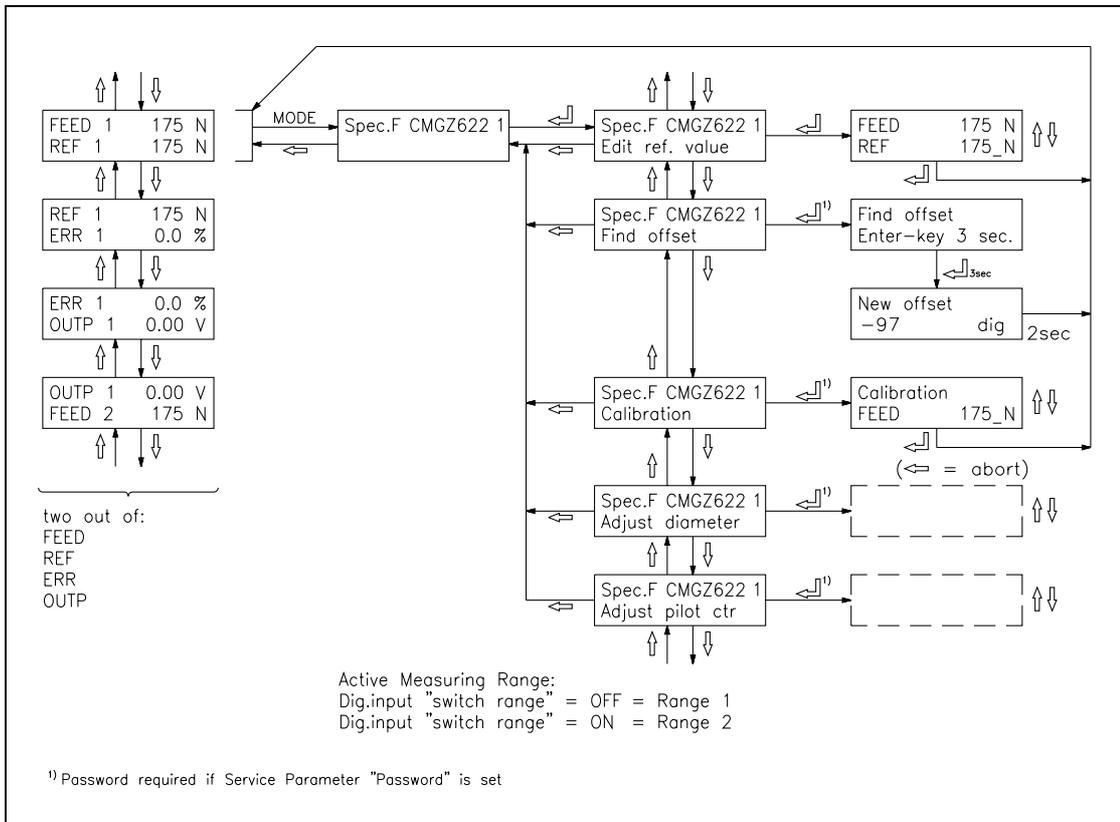

fig. 12: Main operating menu CMGZ622
The distance sensor operates with the 3-beam-correction principle. It is considerable insensible to secondary light and changes of the surface colour of the detected object. But while mounting it must be ensured that the sensor is mounted in „horizontal“ position (fig. 12). The output signal is proportional to the reel radius: Small radius = small signal; large radius = large signal.
- Press MODE key. Search and select the module *Spec.F CMGZ622 I* and the special function *Find offset* with the $\uparrow \downarrow \leftarrow$ keys (fig. 12).
- Find offset by pressing the \leftarrow key for 3 seconds (fig. 12). The electronic unit calculates automatically the new offset value. The display will return to the main operating menu.
- Press MODE key. Search and select the module *Spec.F CMGZ622 I* and the special function *Calibration* with the $\uparrow \downarrow \leftarrow$ keys (fig. 12).
- Set the force referring to the applied weight into the display with the $\uparrow \downarrow$ keys and confirm with \leftarrow key (fig. 12). The electronic unit calculates automatically the new gain value. The display will return to the main operating menu.
- Execute special function *Edit ref. value* (ref. to fig. 12). Input new reference value with $\uparrow \downarrow$ keys and save it with \hookrightarrow key.